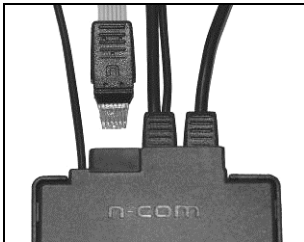

Fig. 6
- Line up the keypad flex connector to the e-box making sure that the letter "n" is pointing as shown in Fig. 6.
N.B. If the system does not work, remove the flex and repeat the previous operation, making sure that the "n" is positioned as in Fig. 6.